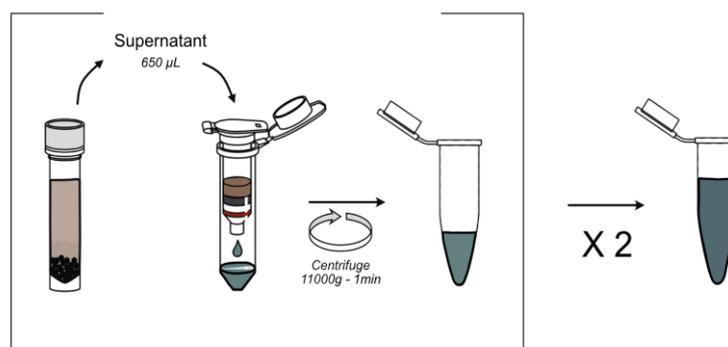

Figure 7. Removing contaminants.
4. Remove contaminants (Figure 7):